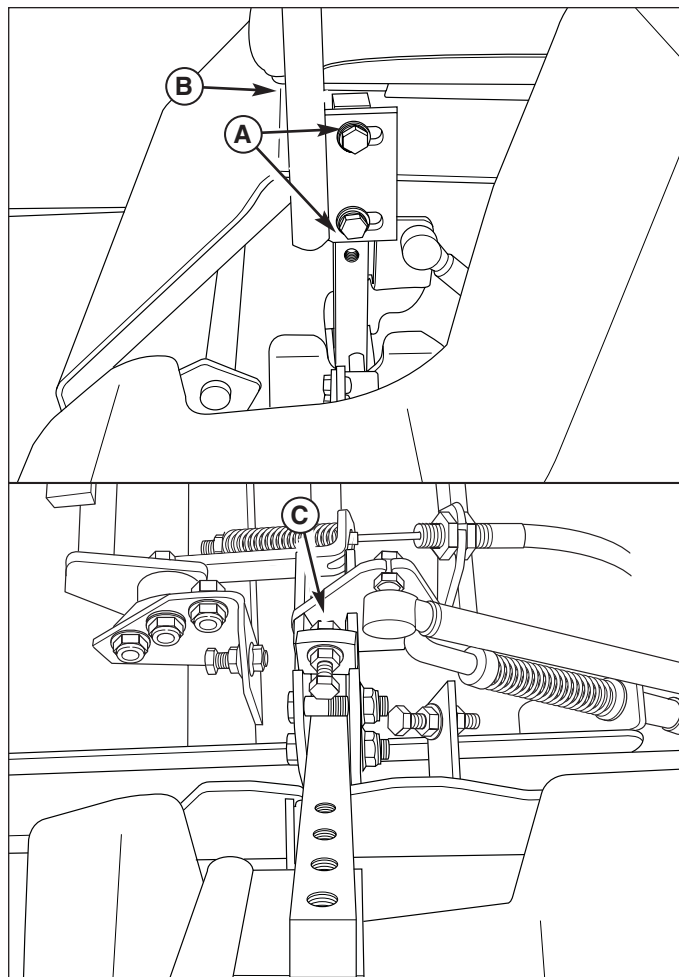

Figure 29. Control Lever Adjustment
Loosen the mount bolts (A, Figure 29) and pivot the lever(s) (B) to align with each other.